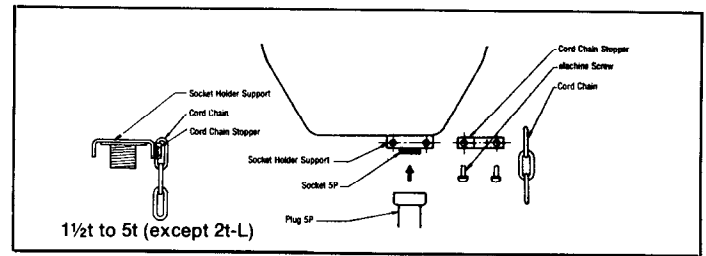

Fig. 7
- Chain hoists over 1½ ton type except 2 ton-L type. Fig. 7.